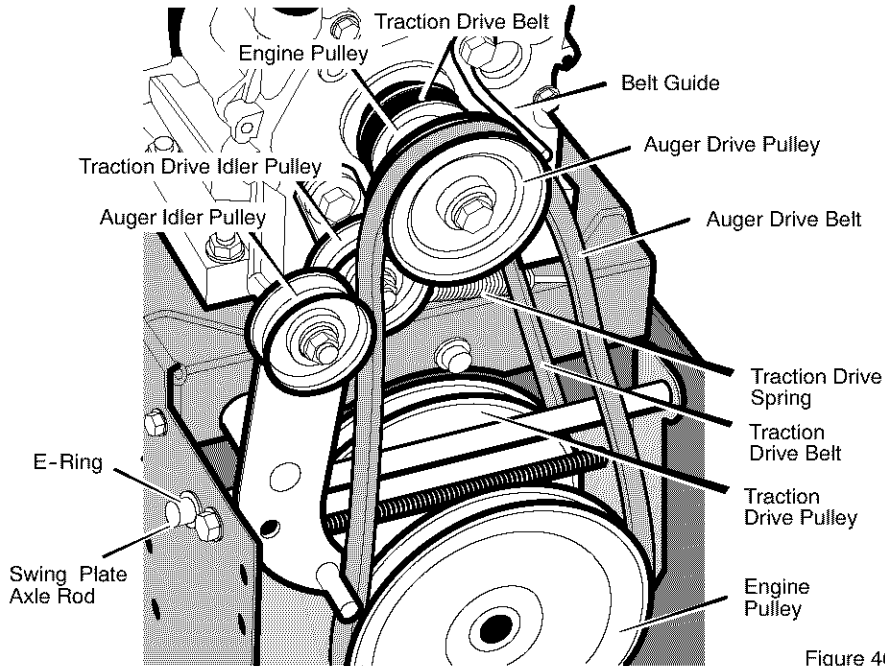

Figure 40
3. Loosen nut on auger idler pulley and move auger idler pulley towards belt about 1/8 inch (3 mm) (see Figure 40).
5. Loosen the **belt guide**. Pull the **belt guide** away from the **auger drive pulley** (see Figure 40).
3. Remove the **e-ring** from one end of the **swing plate axle rod**. Remove the **swing plate axle rod** to allow the the swing plate to pivot forward (see Figure 40).